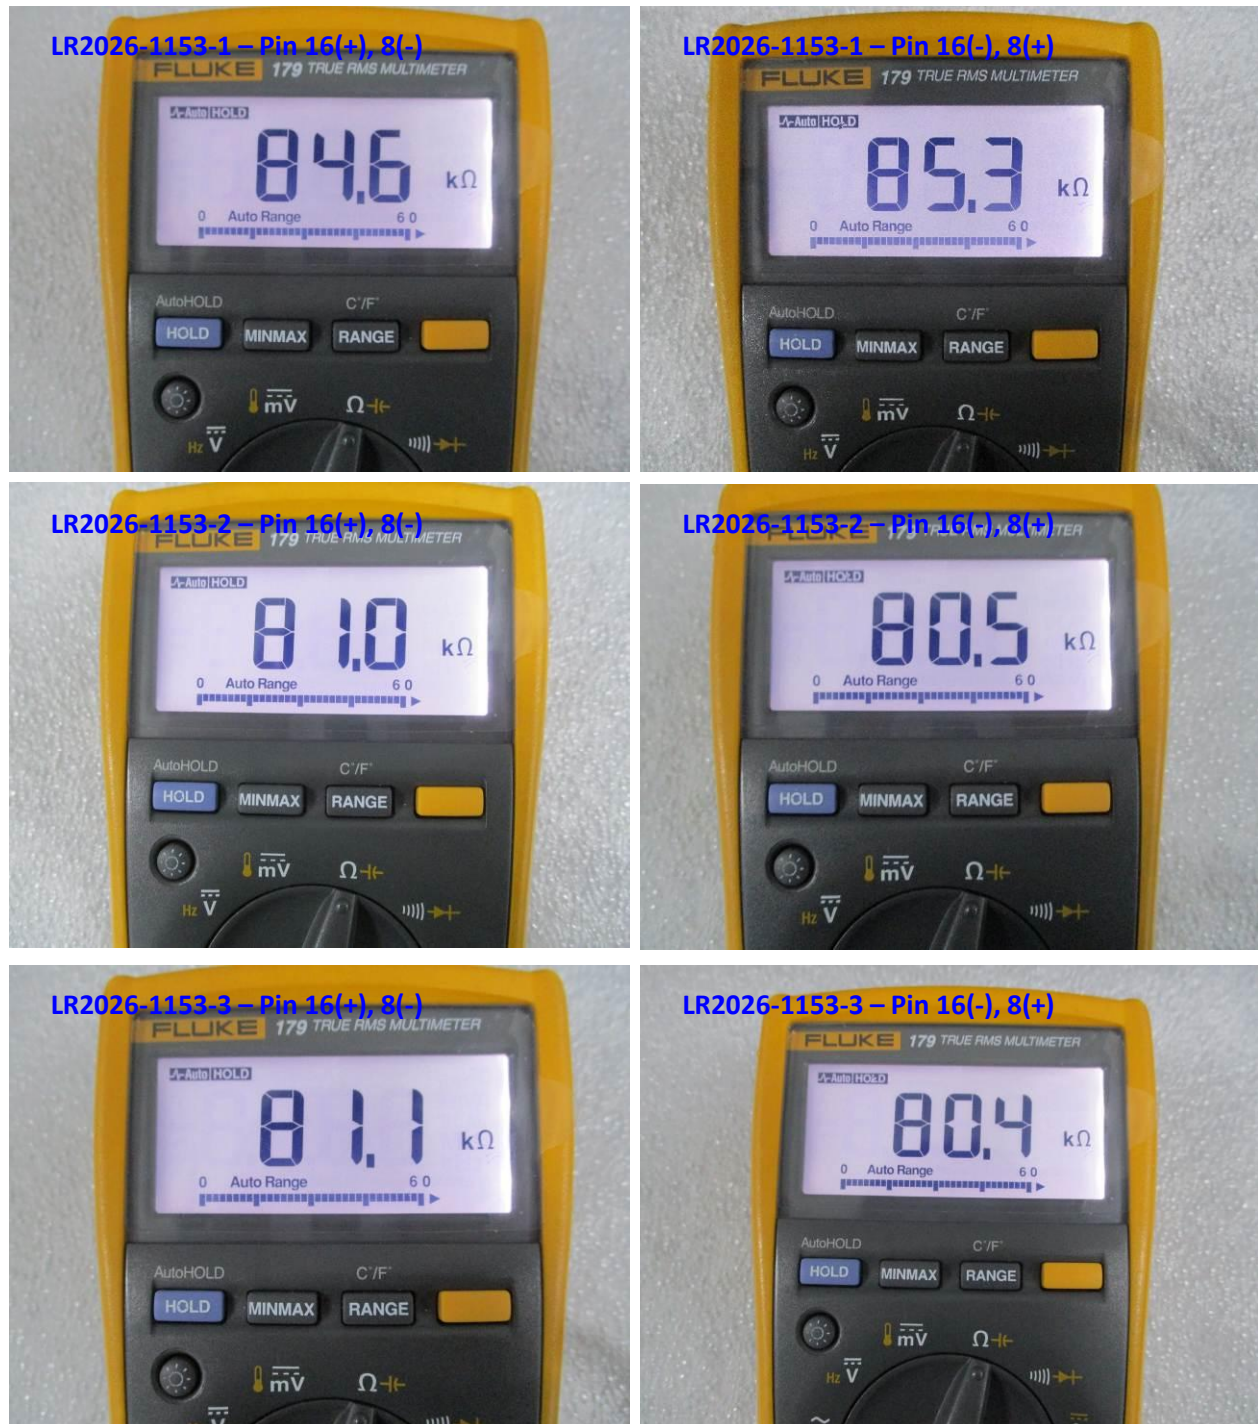

Figure 11: Resistance test of test items LR2026-1153-1 – LR2026-1153-3 measurement by multimeter.
3. The resistance measurement of test items LR2026-1153-1 – LR2026-1153-3 are shown in Figure 11.